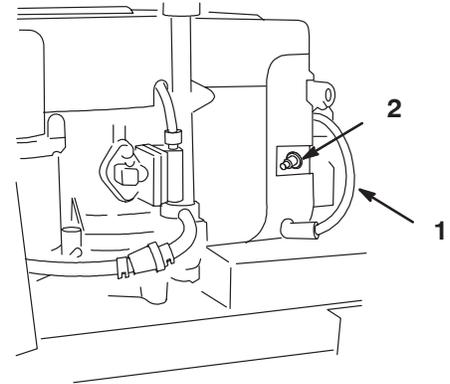

Figure 35
- Disconnect the wire(s) from the spark plug(s) (Fig. 35).
3. Connect the wire(s) to the spark plug(s) (Fig. 35).